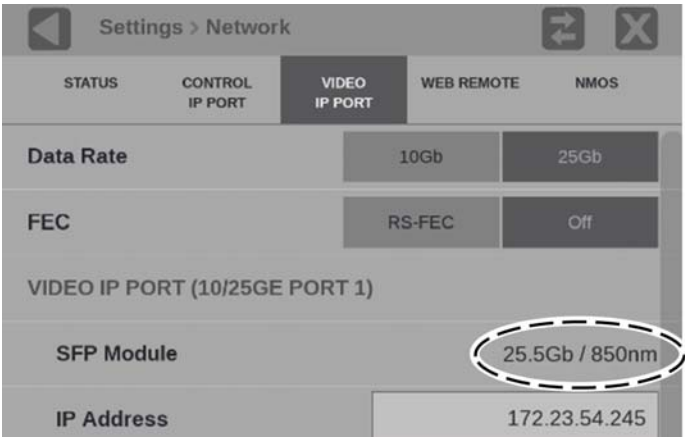

Figure 35: Readable MSA data from a 25Gb SFP module
- If the instrument can read the multi-source agreement (MSA) data from the installed SPF module, the data rate of the SFP module and the signal frequency is displayed in the SFP Module line (either 10Gb or 25Gb and 850nm or 1310nm). (See Figure 35.)